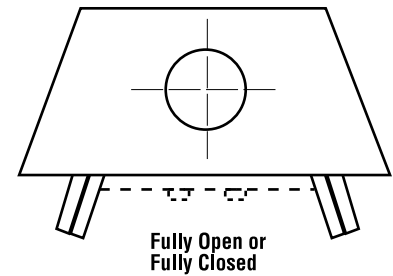

Figure 4
**WARNING: FIREPLACES EQUIPPED WITH OPTIONAL ACCESSORY DOORS SHOULD BE OPERATED ONLY WITH THE DOORS FULLY OPEN OR FULLY CLOSED (FIGURE 4). THIS APPLIANCE MAY ONLY BE FITTED WITH DOORS CERTIFIED FOR USE WITH THE APPLIANCE.**